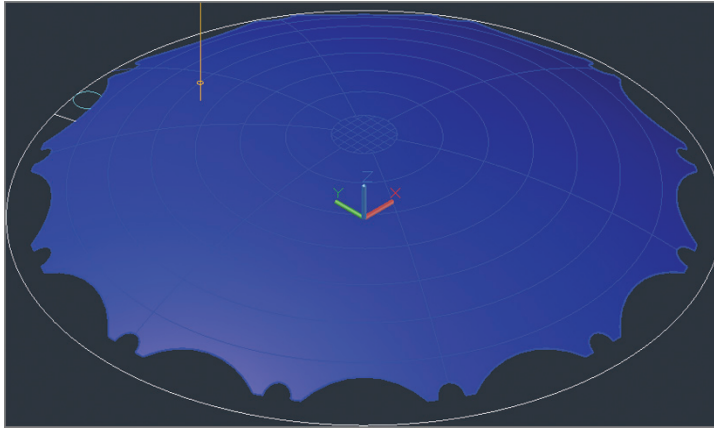

FIGURE 17.9 Trimmed dome membrane
5. Hover the cursor over the Layer Properties Manager's title bar to reveal the palette. Click the Sun icon to freeze the Dome Edge layer. Figure 17.9 shows the resulting trimmed dome membrane.